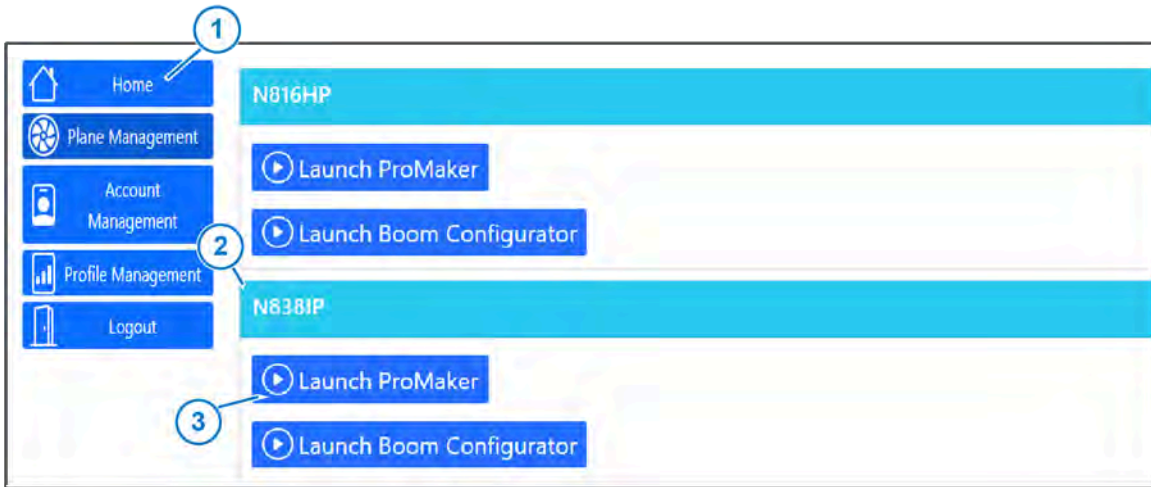

Figure 10: Home Screen
1. Log into your ProMaker account at <https://promaker.capstanair.com> or select **Home** (Figure 10, Item 1) from the sidebar.
2. In the box (Figure 10, Item 2) below the desired plane, select **Launch ProMaker** (Figure 10, Item 3).